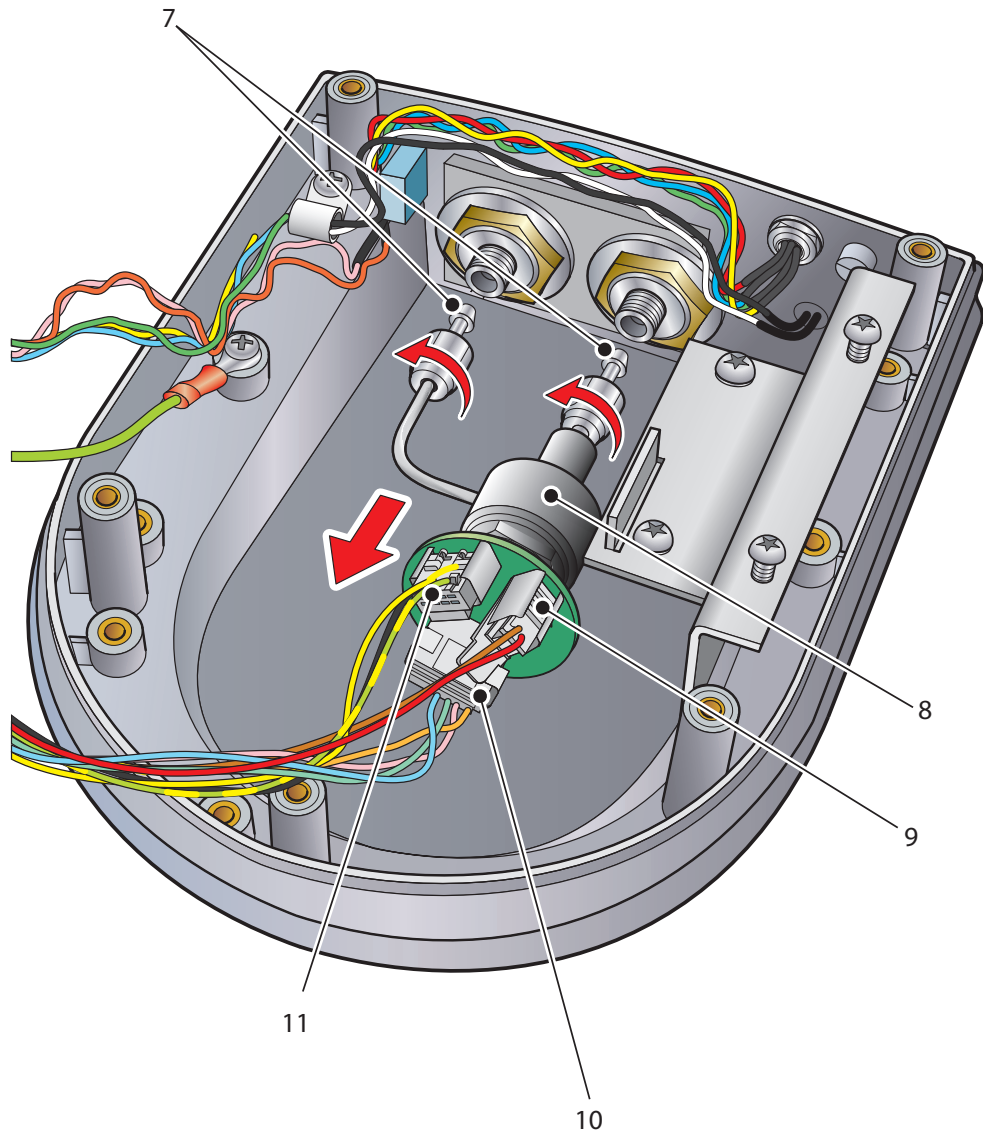

Figure 3 *Internal Sensor Removal*
1. Open the instrument case as described in Section 1.2.1. **NOTE: In Figure 3 the battery pack has been removed so the sensor can be seen more clearly - it is not necessary to remove the battery pack at this time.**
2. Remove the connectors, (9), (10) and (11) from the back of the sensor (see Figure 3). **NOTE: Each connector is locked in position by a clamp situated at the back of the connector. Before attempting to pull the connector out, push this clamp away from the connector in order to release it.**
3. Use a spanner to unscrew the locknuts (7) securing the sensor to the gas inlet and outlet ports. **NOTE: Make a note of the orientation of the sensor in relation to the gas connections. Ensure that it is re-installed in the same orientation.**
4. Lift the sensor (8) clear.